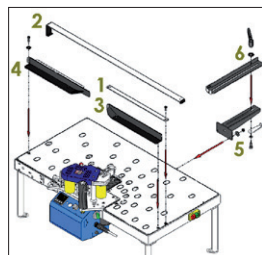

Fig 1
- Worktable is compatible for straightline edge banding and trimming operation, follows (Fig1) to begin installation.